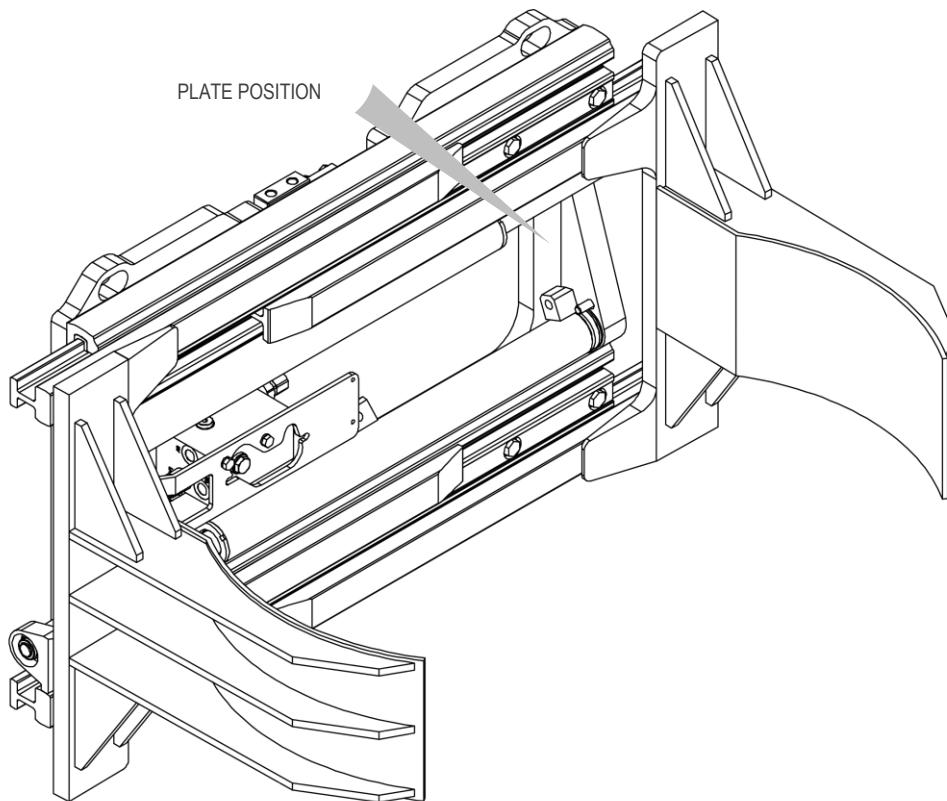

Figure 1
All the A.T.I.B. equipment – “GRIPPER FOR ONE OR TWO DRUMS TYPE 474.160 | GRIPPER FOR TWO OR FOUR DRUMS TYPE 474.190 | GRIPPER FOR DRUM ROTATING 180°” are identified by means of an adhesive plate (see *Table 1*) located on the equipment (see *Figure 1*), always refer to the serial number.
5. For handling, use straps and/or chains that are suitably sized in relation to the weight of the equipment as indicated on the plate (see *Figure 1* and *Table 1* on page 7).
9. Connect the hydraulic circuit, ensuring that the operating pressure of the lines is greater than or equal to that indicated on the rating plate (see *Figure 1* and *Table 1* on page 7).
6. For handling, use straps and/or chains that are suitably sized in relation to the weight of the equipment as indicated on the plate (see *Figure 1* and *Table 1* on page 7).